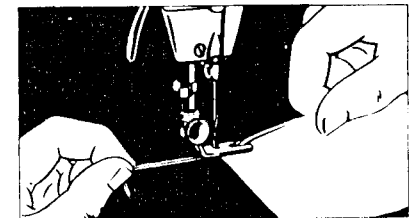

Fig. 24. Starting a Hem at the Edge.
3. Raise hemmer. Pull threads and hem slightly from you with left hand, then, while holding threads, draw material toward you with right hand into scroll of hemmer until tacked end is caught in hemmer, as shown in Fig. 24.